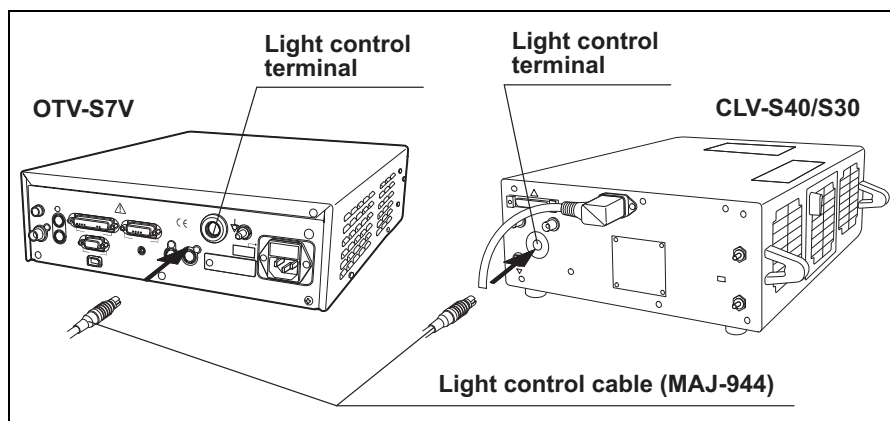

Figure 3.1
Connect the OTV-S7V to a light source as shown in Figure 3.1 using light control cable MAJ-944.
- Light sources other than CLV-S40/S30 may be connected to the OTV-S7V differently than shown in Figure 3.1. When using other light sources, refer to the respective instruction manuals, and confirm the location of the light control terminal.